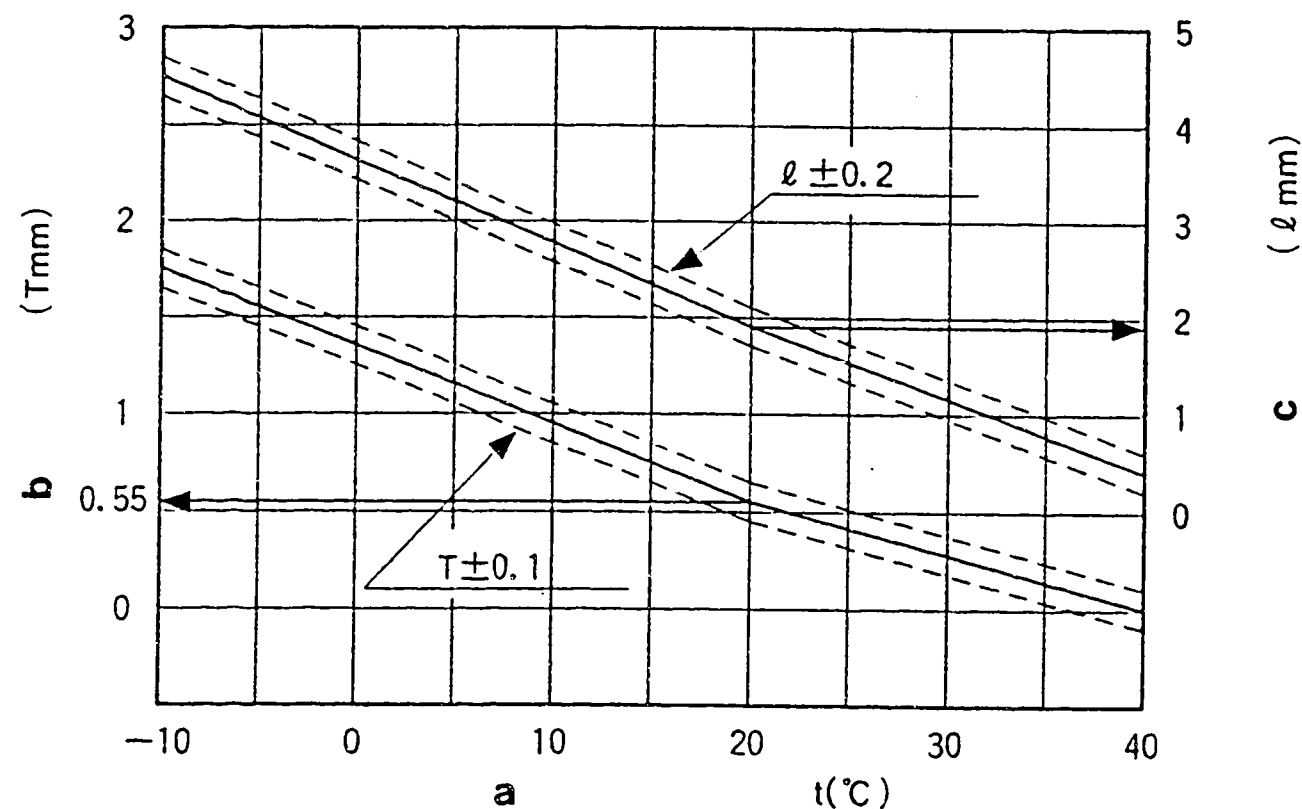

Figure 95
- 1) Calculate the timer stroke from Fig. 95 according to the atmospheric temperature at the time of adjustment.
- 1) Calculate the block gauge dimension $l \pm 0.05$ mm from Fig. 95 according to the atmospheric temperature at the time of adjustment.